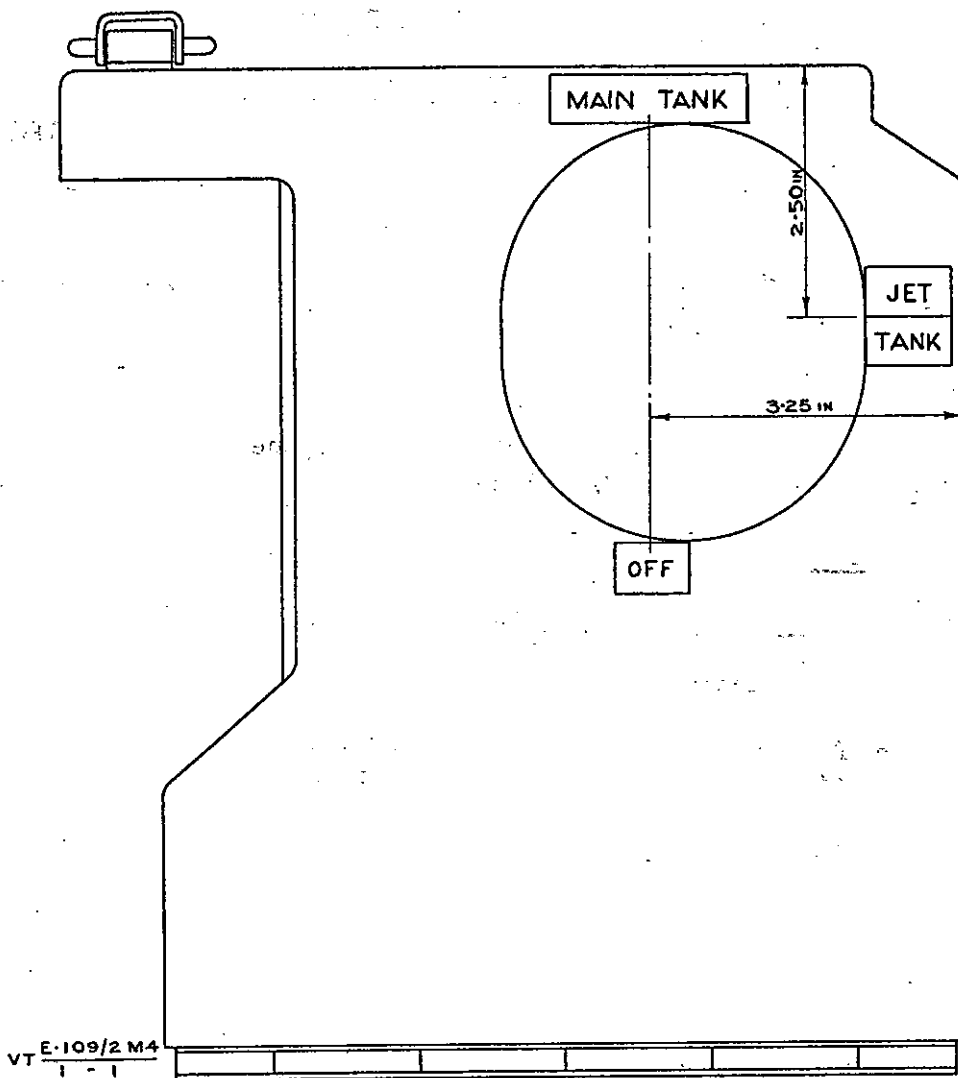

Fig 1 - Label fixing detail
- (b) See Fig 1. Secure plastic labels in positions shown by the adhesive backing.